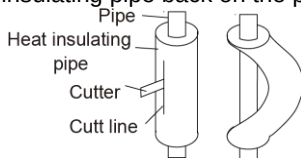

Fig. 4.10
- (2). Do not bend the pipes in an angle more than 90° .
- (3). When pipes are repeatedly bent or stretched, the material will harden, making it difficult to bend or stretch them any more. Do not bend or stretch the pipes more than three times.
- (4). When bending the pipe, do not bend it as is. The pipe will be collapsed. In this case, cut the heat insulating pipe with a sharp cutter as shown in Fig. 4.10, and bend it after exposing the pipe. After bending the pipe as you want, be sure to put the heat insulating pipe back on the pipe, and secure it with tape.